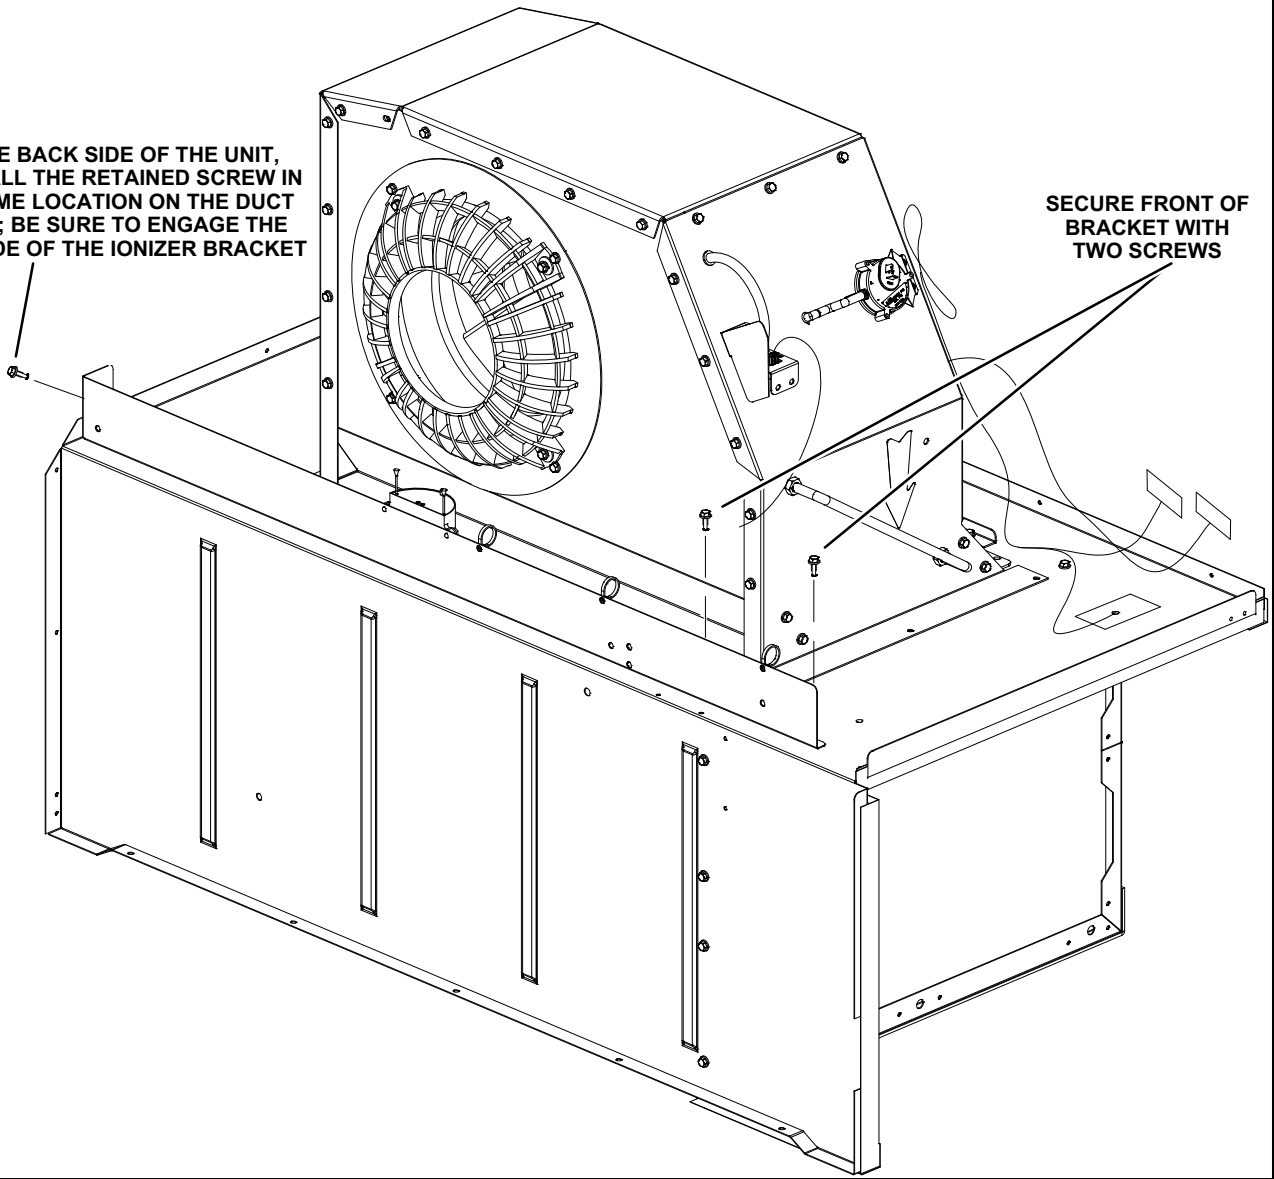

FIGURE 2
- 2- Install ionizer assembly on the blower deck to the left of the blower housing; secure with two provided screws. See figure 2.
- 3- On the back side of the unit, reinstall the retained screw engaging the back side of the ionizer bracket. See figure 2.